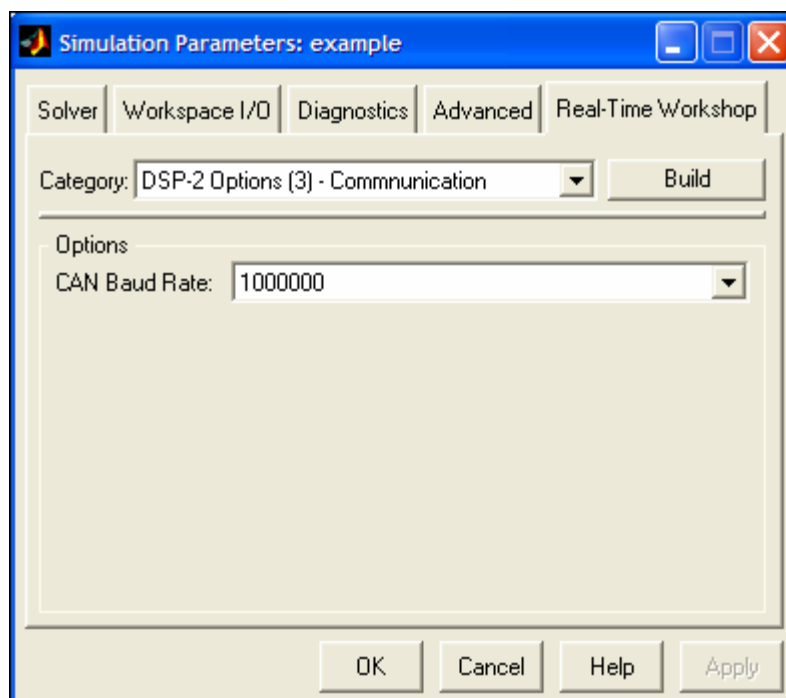

Figure 18: DSP-2 options (3)
DSP-2 options (3) (Communication) (Figure 18)